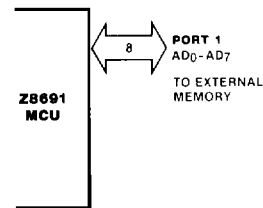

Figure 8. Port 1
**Port 1** is a dedicated Z-BUS compatible memory interface. The operations of Port 1 are supported by the Address Strobe ( $\overline{AS}$ ) and Data Strobe ( $\overline{DS}$ ) lines, and by the Read/Write (R/W) and Data Memory ( $\overline{DM}$ ) control lines. The low-order program and data memory addresses ( $A_0$ - $A_7$ ) are output through Port 1 (Figure 8) and are multiplexed with data in/output ( $D_0$ - $D_7$ ). Instruction fetch and data memory read/write operations are done through this port.